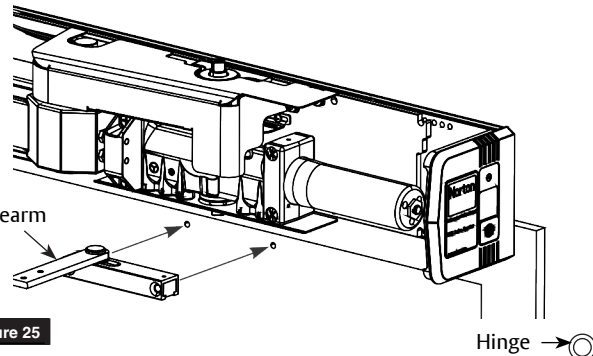

Figure 25
1. Using previously prepared holes in door, install two (2) 1/4-20 x 1-5/8" screws through shoe and into sex bolts. (Figure 25)